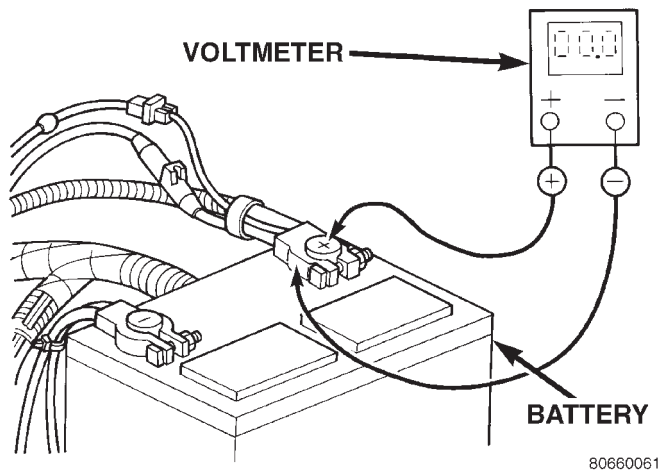

Fig. 3 Test Battery Positive Connection Resistance - Typical
(2) Connect the positive lead of the voltmeter to the battery positive terminal post. Connect the negative lead of the voltmeter to the battery positive cable clamp (Fig. 3). Rotate and hold the ignition switch in the Start position. Observe the voltmeter. If voltage